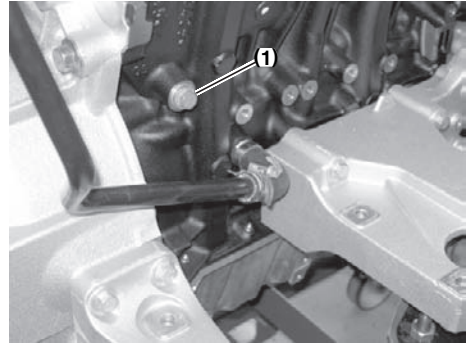

Figure 11
Note: The charge air cooler has been removed for clarity of **Figure 11**.
5. Remove drain plug (**Figure 11, (1)**) from the engine block. Allow coolant to drain into a container of appropriate size.